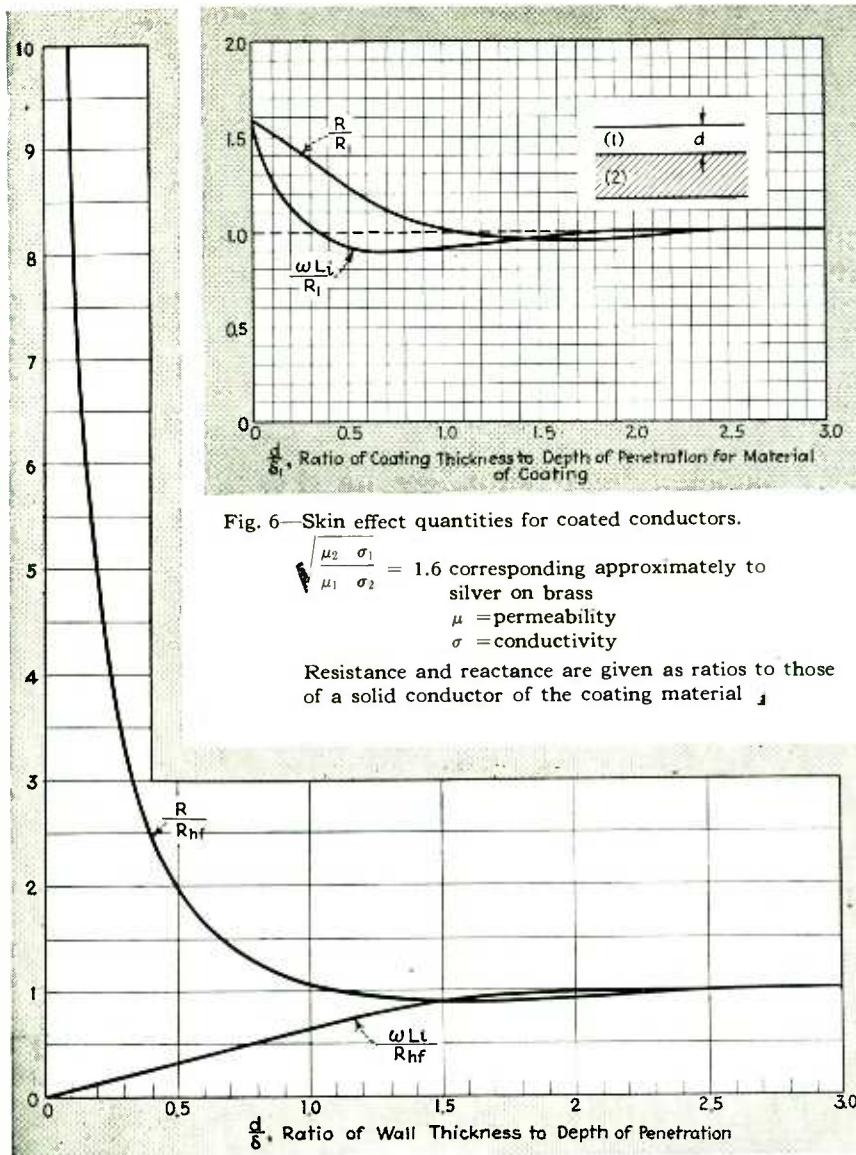
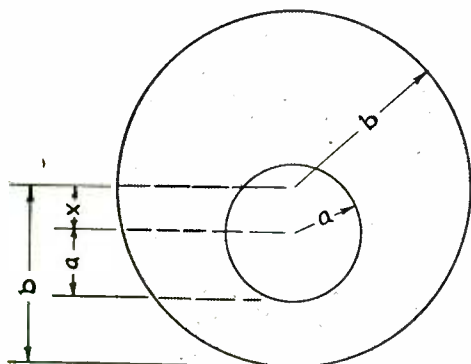

Fig. 6—Skin effect quantities for coated conductors.
Fig. 1—Configuration of eccentric transmission line with inner conductor displaced by amount x
δ_1 is given by Eq. (1) or Fig. 1.
Curves are plotted in Figs. 6, 7, and 8 as functions of the ratio of coating thickness to depth of penetration, for values of $\frac{R_{s2}}{R_{s1}} = 1.6, 0.34, \text{ and } 5$. These correspond approximately to silver coating on brass, solder coating on copper, and copper coating on iron or Fernico. It is seen that in all cases when coating thickness is equal to or greater than the depth of penetration, δ_1 , for the material of the coating (obtained from Eq. 1 or Fig. 1), the composite conductor is nearly as good, or as bad, as though the conductor were made entirely of the coating material.
R_2 given by Eq. (2) or Fig. 1.
It is of interest to find that the first order corrections are independent of conductivity of the coating. For any practical cases (d/λ small and R_{s2} less than one, as shown by Fig. 1) the correction to resistance is always small, but the correction to internal reactance may be very large since the coating may be much thicker than depth of penetration in the coated conductor, and so may contain much more magnetic flux than the coated conductor.
If there is no insulation present in the transmission line, we may use $v = 3 \times 10^{10}$ cm per second, and compute C from the static capacitance between conductors. The configuration in which we are interested is shown in Fig. 1. The radius of the outer conductor is b , the radius of the inner conductor is a , while the axis of the inner conductor is displaced an amount x from the axis of the outer conductor. The capacitance of this configuration is¹